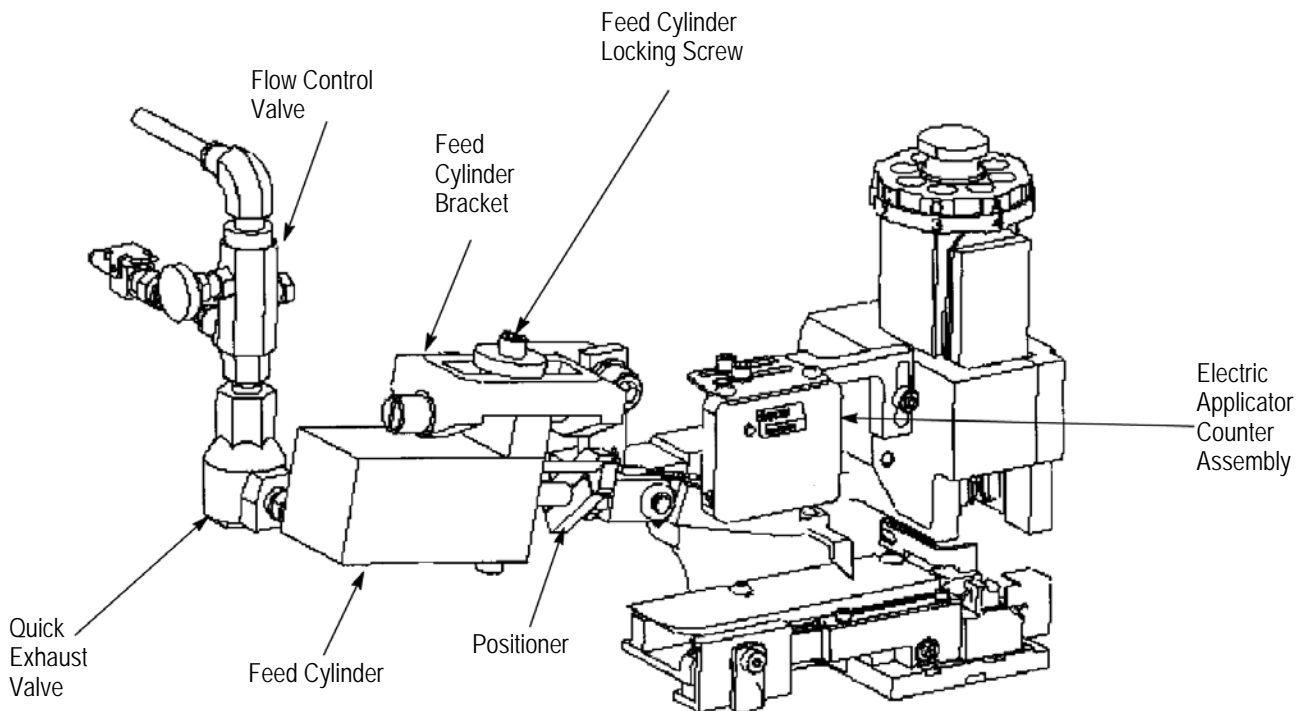
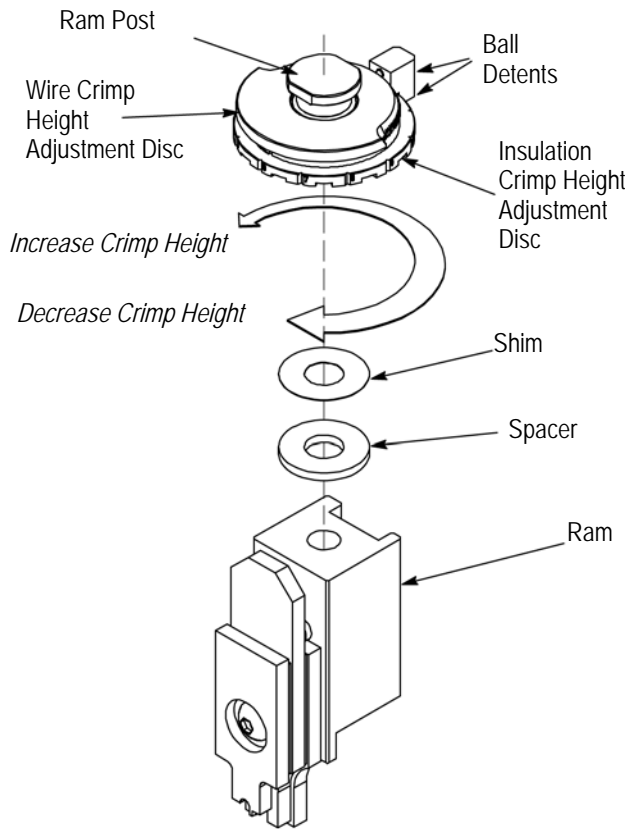

Figure 4
Figure 5
#### b. Applicator with air-feed systems (Figure 4) -
- 1) Loosen slightly the feed cylinder locking screw on top of feed cylinder bracket (see Figure 4).
Fine Adjust Assembly 879103-[ ] is factory installed and should require no further adjustment. If the assembly must be removed from the ram, be sure to loosen ram post locking set screw (Figure 4). The ram post can then be removed. Upon re-assembly, be sure that the two ball detents on the fine adjust assembly are aligned with the centerline of the insulation crimper and oriented relative to the front of the tooling (as shown in Figure 5). Ensure that the correct spacer (as per the appropriate applicator log) is re-assembled. Be sure that the ram post and ram post locking set screw are tight before re-installing the applicator into the appropriate terminating unit.